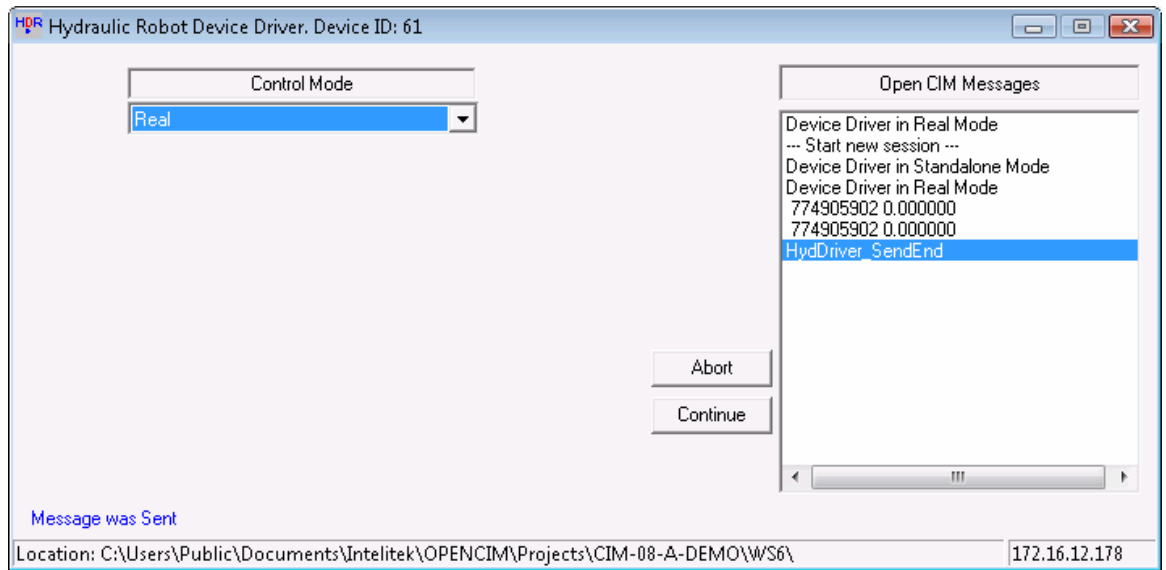

Figure 9-37: Hydraulic Robot Device Driver
- From the windows system tray select **Hydraulic Robot Device Driver**. The Hydraulic Robot Device Driver window is displayed, as shown in Figure 9-37: Hydraulic Robot Device Driver.